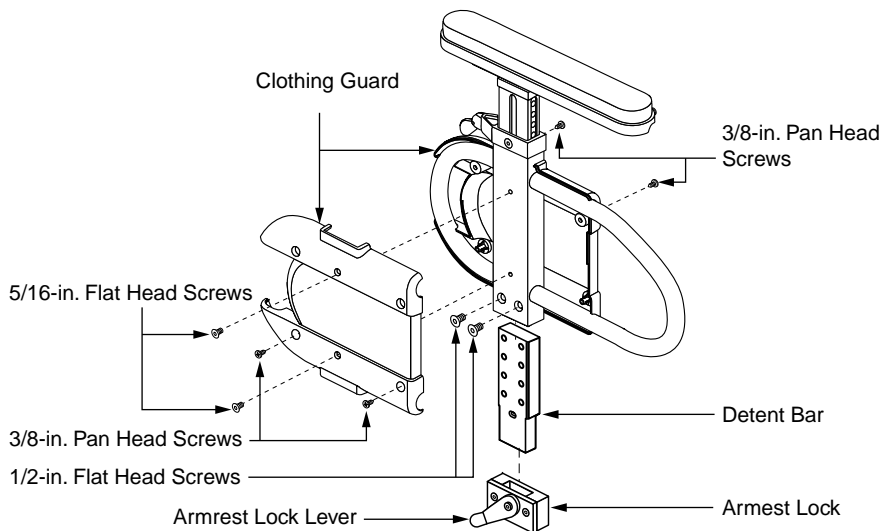

Figure 6. Quick Height Adjustable Drop-in Armrest Bottom Height Adjustment
1. Use the Phillips head screwdriver to remove the four (4) 3/8-in. pan head screws. See figure 6.
2. Use the 3/32-in. hex key to remove the two (2) 5/16-in. flat head screws. Remove the plastic clothing guard.
3. Use the 5/32-in. hex key to remove the two (2) 1/2-in. flat head screws from the detent bar.
6. Reinstall the two (2) 1/2-in. flat head screws.